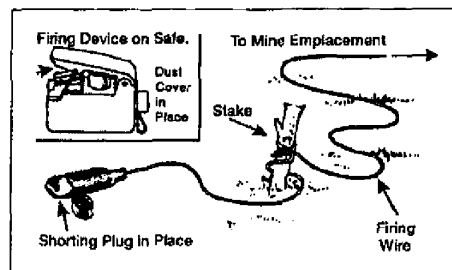

Figure 071-325-4425-4. Firing wire secured
- a. Tie the shorting plug end of the firing wire to a fixed object, such as a stake or tree at the firing position (figure 071-325-4425-4).